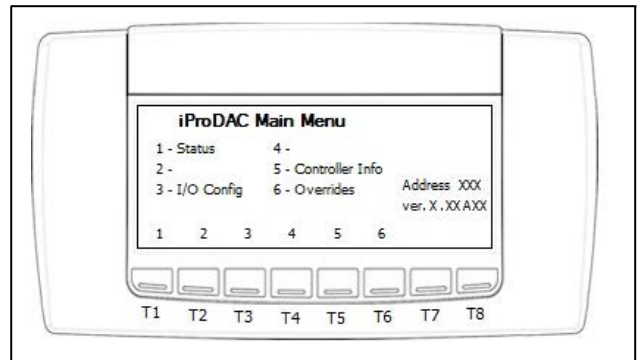

Figure 3-4 - Main Menu - Press 5 to Set Address
- Shows current MODBUS address and application version (see **Figure 3-4**).